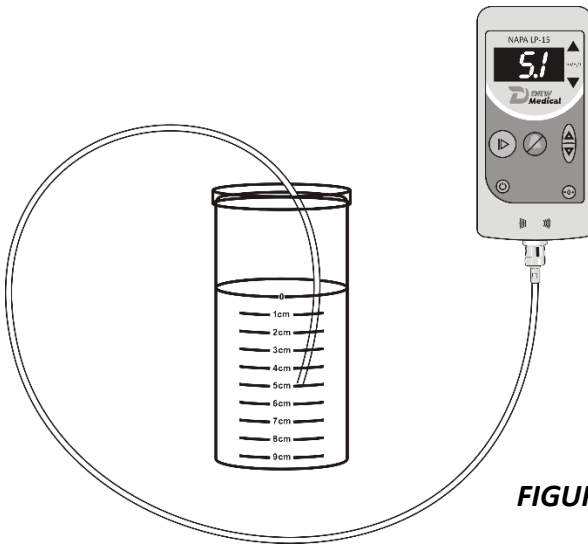

FIGURE 13
The alarm functionality may be verified using the method shown in Section 7.2, Figure 13 titled Functional Test.
8.2 Functional Test (All Users) *FIGURE 13*
The NAPA Airway Pressure Monitor functionality may be verified using the method shown in *Figure 13*. This will confirm mean airway pressure and High and Low alarm settings.